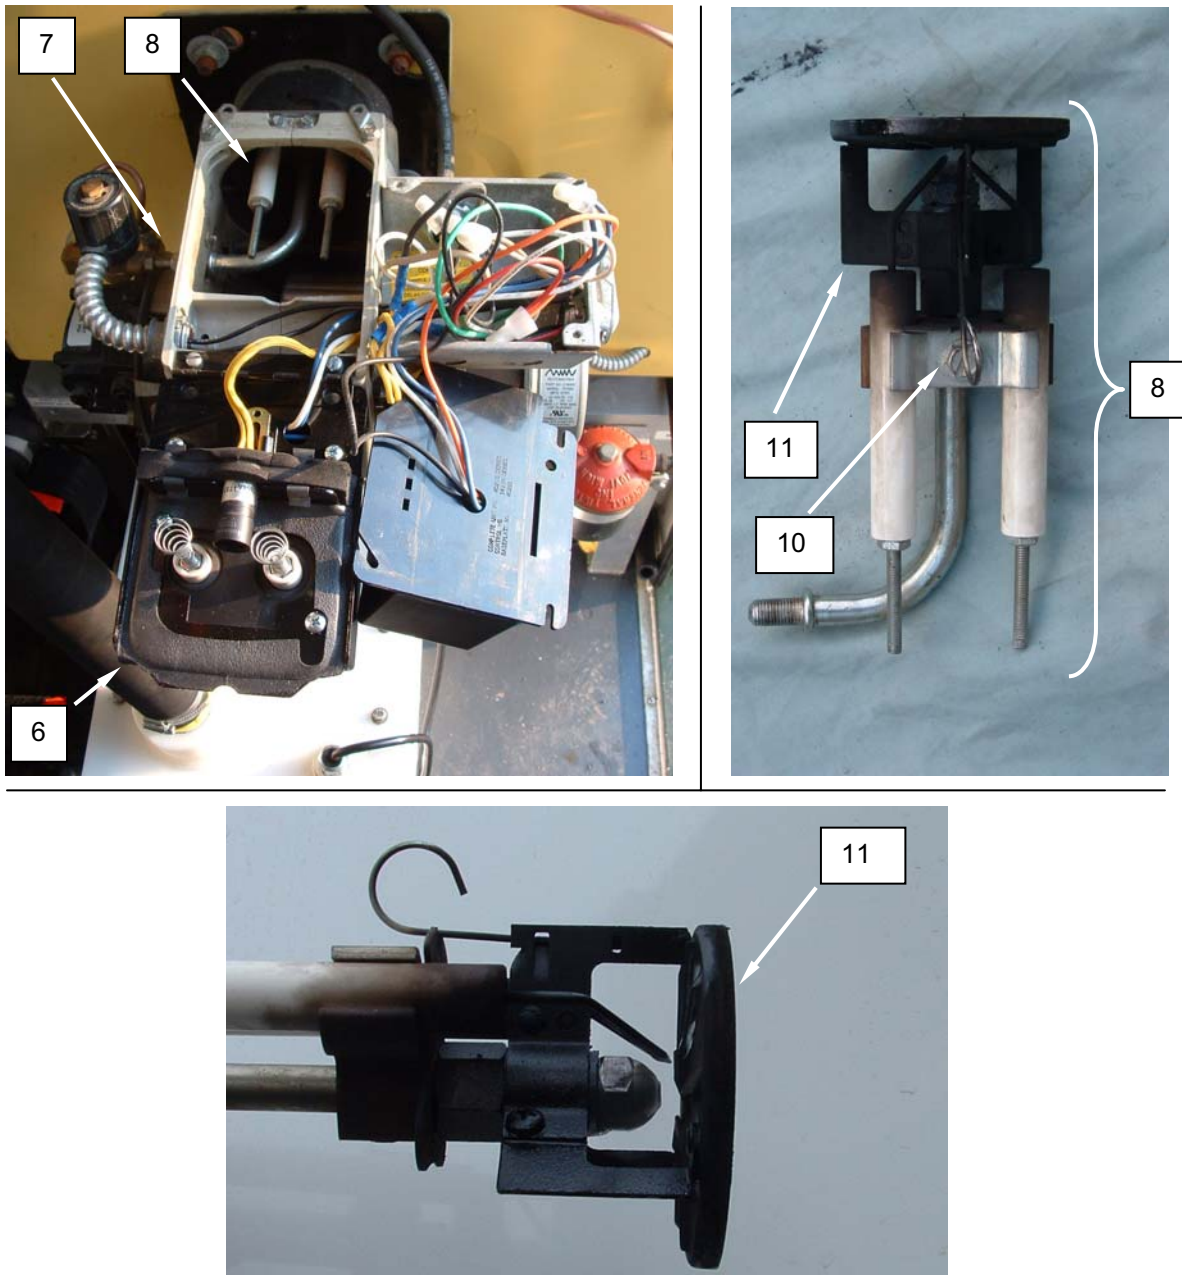

Figure 4. Replace the Flame Retention Head.
2. Remove screws retaining transformer (**Figure 4, Item 6**), and swing transformer up and out of the way.
3. Loosen compression nut retaining the fuel solenoid (**Figure 4, Item 7**) to the nozzle assembly (**Figure 4, Item 8**).
4. Remove the locknut retaining the nozzle assembly (**Figure 4, Item 8**), and remove the nozzle assembly.
5. Loosen the clamp (**Figure 4, Item 10**) retaining the electrodes
6. Loosen clamp screw on the flame retention head (**Figure 4, Item 11**) and remove the flame retention head.
7. Install the replacement flame retention head (**Figure 4, Item 11**) and tighten the clamp screw.
9. Install the nozzle assembly (**Figure 4, Item 8**) into the burner, and retain with locknut.
10. Connect the fuel solenoid (**Figure 4, Item 7**) to the nozzle assembly (**Figure 4, Item 8**), and tighten compression nut.
11. Swing transformer (**Figure 4, Item 6**) back into place and retain with screws.